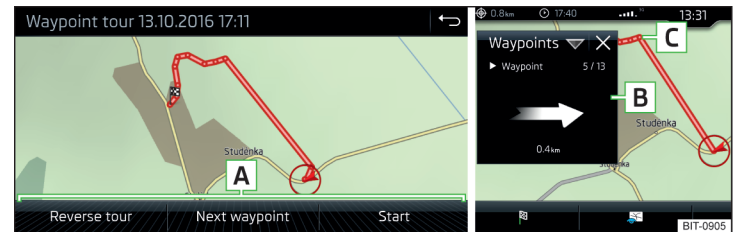

Fig. 249 Display a waypoint / guide along a waypoint tour
- ▶ Select one of the following menus **A** » Fig. 249.
While driving along a waypoint tour, the split screen shows the **Waypoints** and the direction to drive as well as the distance to the next waypoint, the sequence number of the next waypoint and the total number of waypoints **B** » Fig. 249.
The waypoint tour from the vehicle position to the next waypoint “reduces” continuously while driving “ ” **C** » Fig. 249 .
- Display the waypoint tour » Fig. 249 on page 198